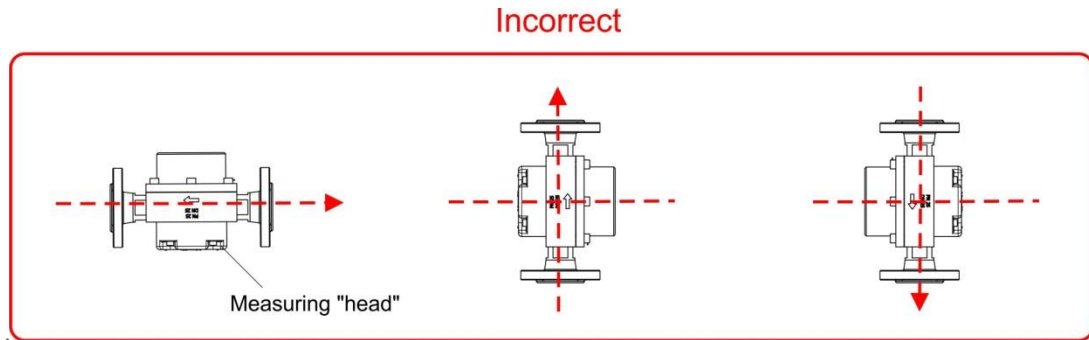

Figure 15 — DFM Marine operating position relatively to vertical and horizontal planes
- 4) To ensure declared accuracy of measurement, it is allowed to install fuel flow meter **in "head up" position only**. Flow meter can be slightly (up to 30 degrees) inclined up or down from its horizontal axis. **Installation of flow meter heading down is not allowed** (see figure 15).